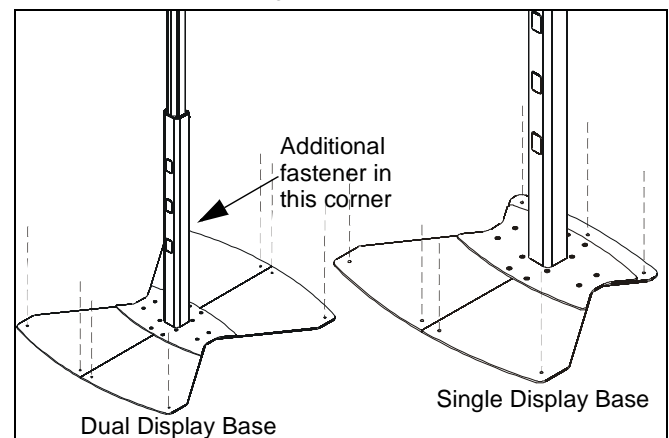

Figure 14
1. Attach the floor stand to the floor using 5/16" or 3/8" fasteners (not provided) which are appropriate for the floor's construction. (See Figure 14)